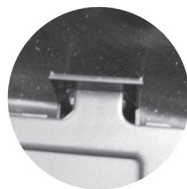

fig. 5
• Releasing The Shade Cartridge. (See fig. 5)